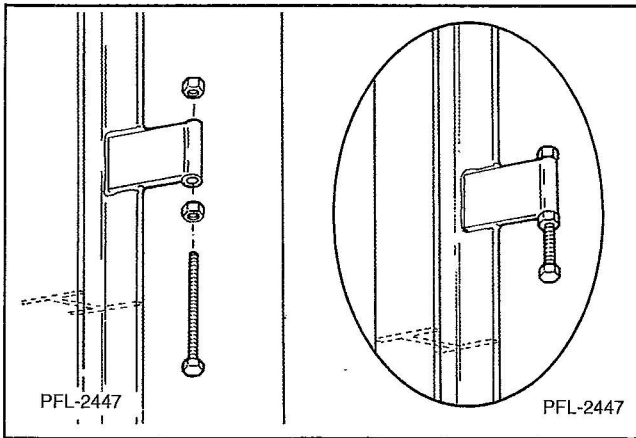

Figure 9
4. Mount jackscrews and jam nuts onto column weldment. See Figure 9.